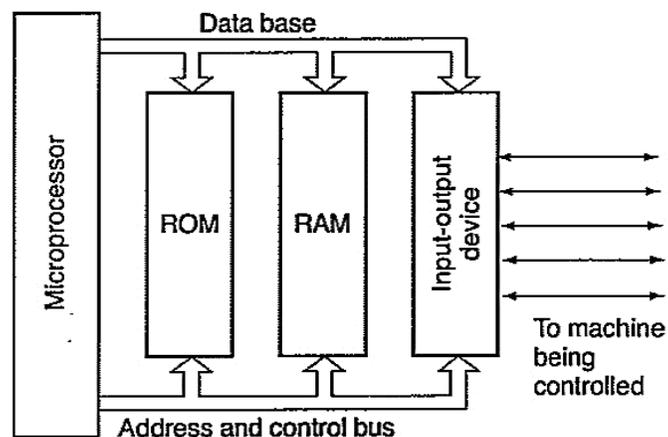
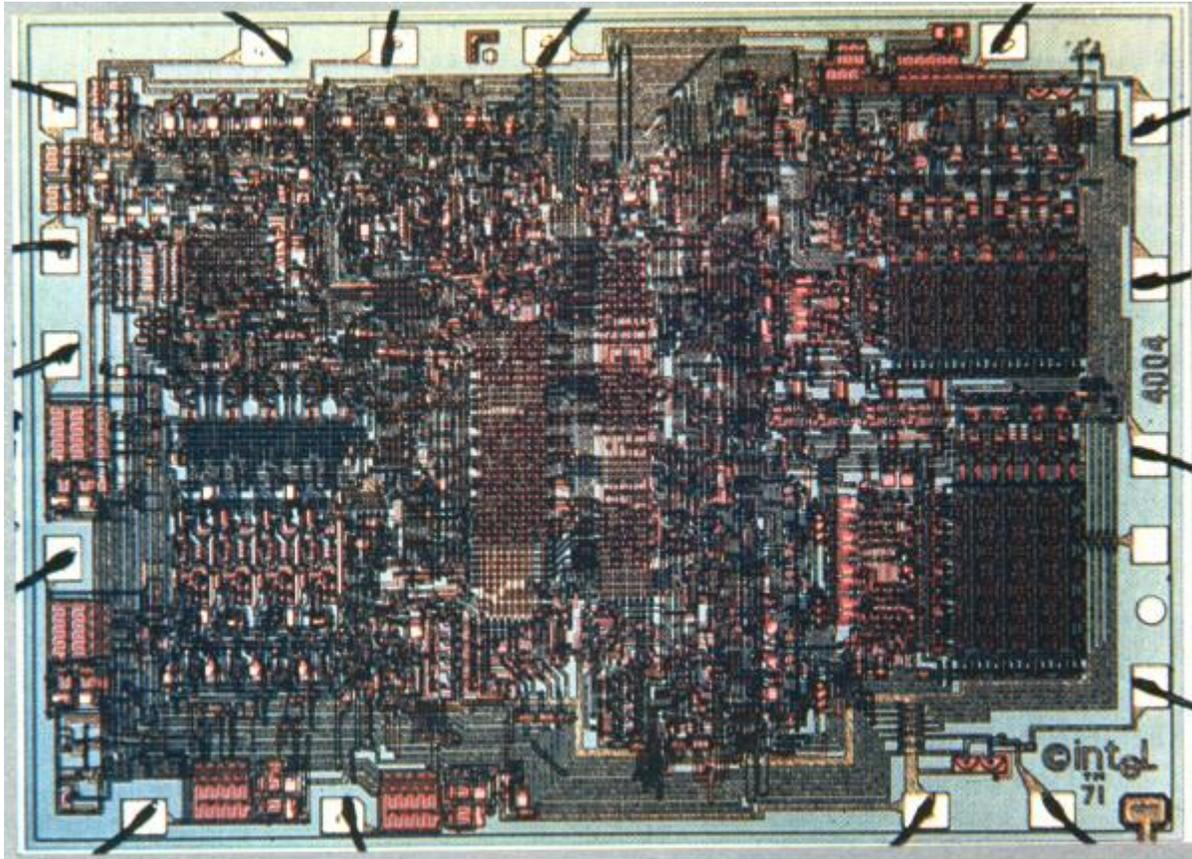

Figure 10.15: Microprocessor System
Figure 10.16: Microprocessor Chip
- 10-87 Figure 10.15 is a simple diagram of a microprocessor system. It includes the microprocessor chip, a RAM chip, a ROM chip, and an input-output device that controls the flow of information to and from the machine. Figure 10.16 is a photograph of a microprocessor chip, greatly enlarged.